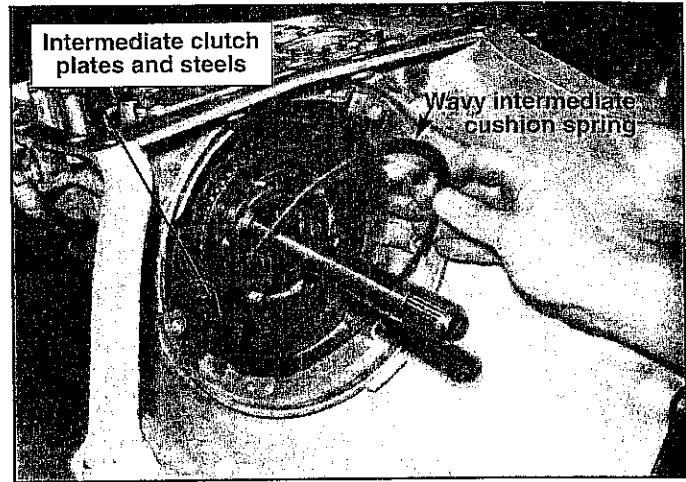

FIGURE 8
STEP 14. Remove the wavy cushion spring from the case. (See Fig. 8) Remove two or three friction plates and steel plates. Remove the thick intermediate clutch pressure plate. Discard the friction plates and the steel plates. Put the wavy cushion spring and the thick pressure plate in the oil pan.